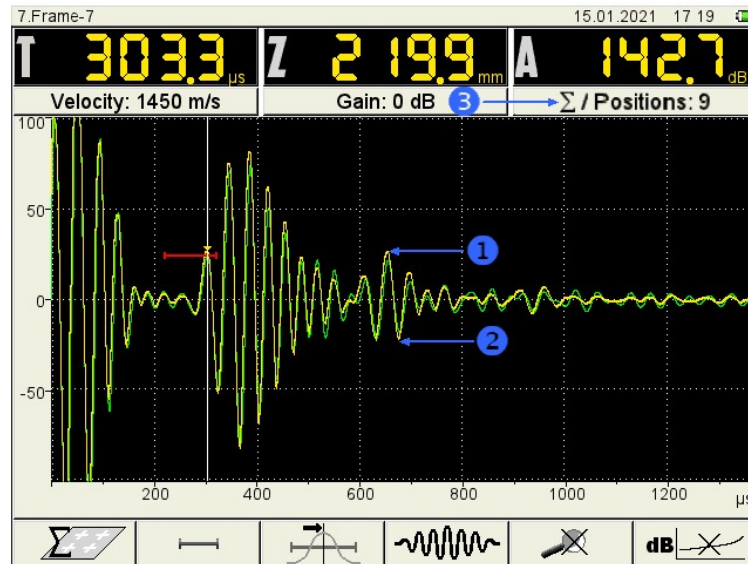

Figure 16: Spatial averaging
To use spatial averaging press F1 and get the stable signal. Press the  key to force pre-saving the signal. Now both *real-time waveform* ① and the *pre-saved waveform* ② are shown on the screen (Figure 16).